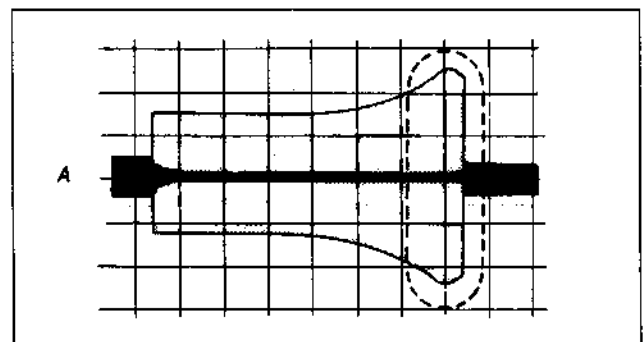
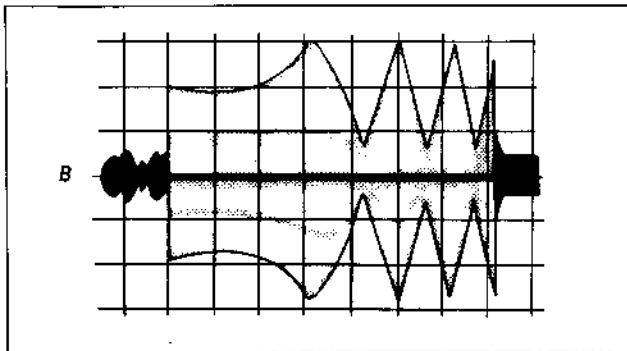

Fig. 4-12
Fig. 4-13.
- When the waveform is outside this range and has the form shown in Fig. 4-12. turn the tilt adjustment screw clockwise to adjust until the waveform is within the required range.
- When the exit free waveform is outside of the required range and has the form shown in Fig. 4-13, turn the tilt adjustment screw counterclockwise to produce waveform A (Fig. 4-12), then turn it clockwise to bring the waveform within the required range.
- 8) If the radio frequency waveform is as shown in Fig. 4-12 on the exit side, repeat the adjustment.